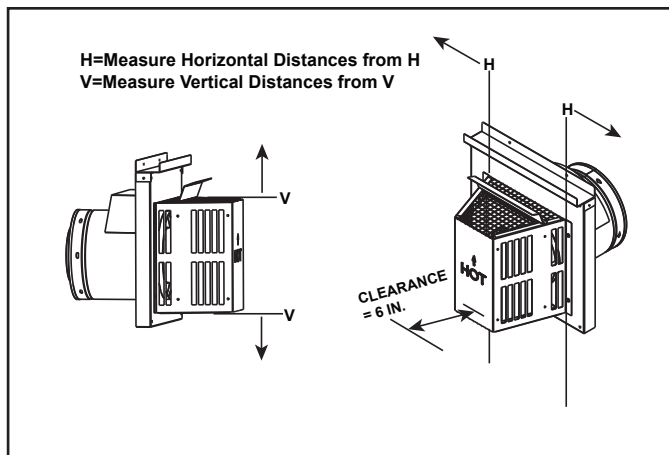

Figure 4.3
- Measure horizontal and vertical termination cap clearances as noted in Figure 4.3.